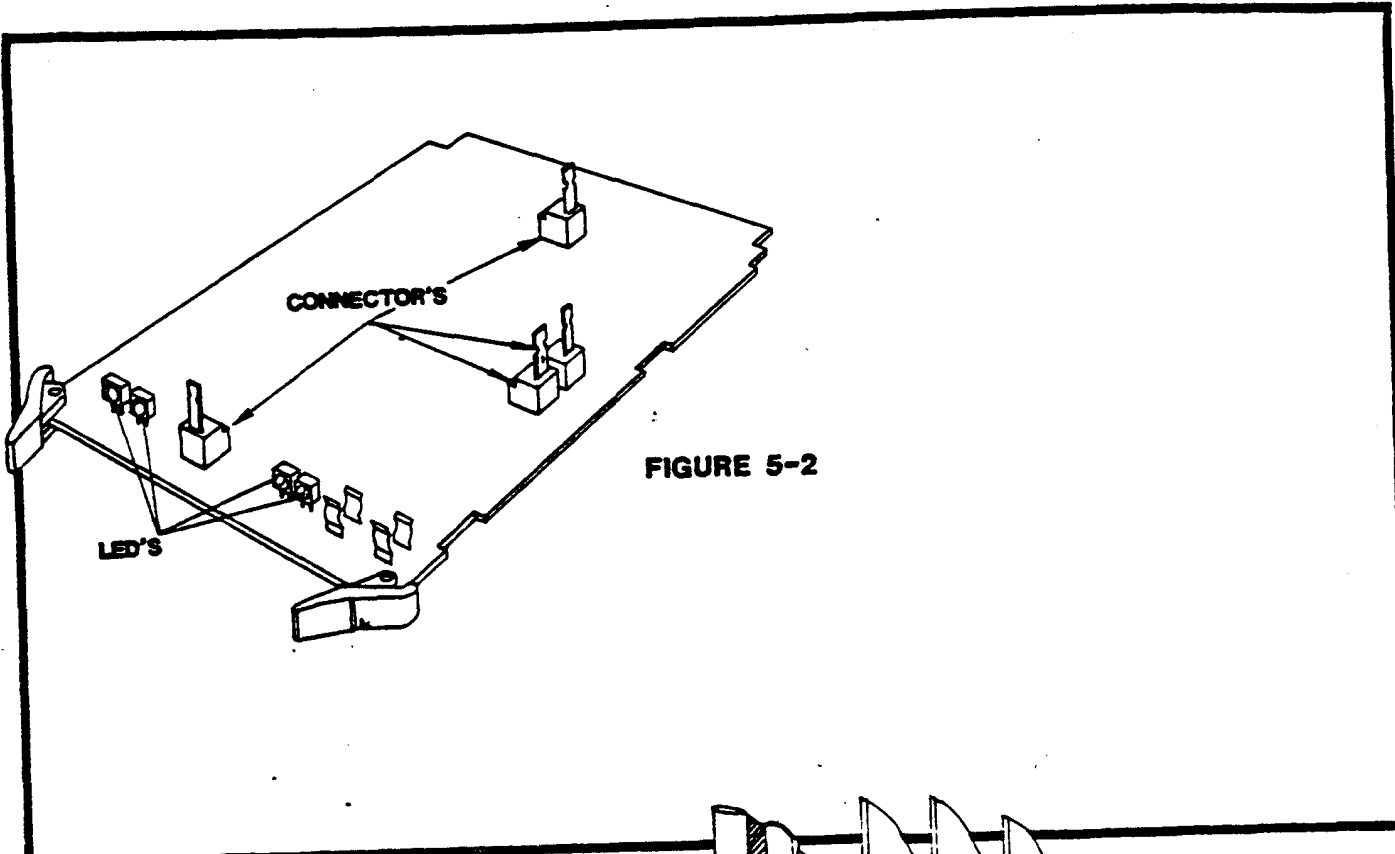

FIGURE 5-2
2.04 If required, remove any EOPU-A/B circuit cards and place straps in the CN connector in the 1/2 position (Refer to Figure 5-2). This will allow OPS direct dial access to CO lines.